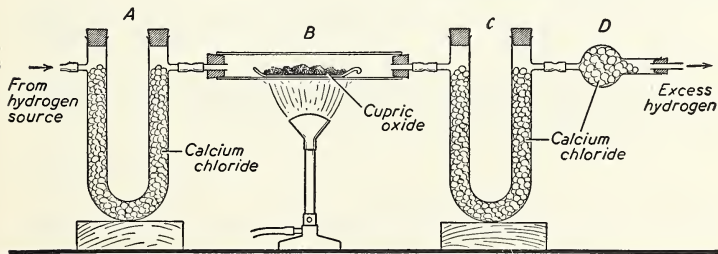

Fig. 44. Finding the percentage composition of water by weight.
The apparatus used (Fig. 44) consists of three drying tubes containing granular calcium chloride, a combustion tube and porcelain boat, a Bunsen burner fitted with a flame spreader, and a hydrogen generator (not shown in the diagram). Weigh the drying tubes (C) and (D) together, and record their weight. Fill the boat almost full of cupric oxide, place it in the combustion tube, and weigh the tube and contents together. Record this weight. Assemble the
complete apparatus, and connect it to a hydrogen generator. Pass hydrogen through the assembled tubes until all the air has been driven from them. To make certain that hydrogen has replaced the air in the system, test at the exit tube, for pure hydrogen (see Experiment 27). When hydrogen only is escaping, then, **and not until then**, heat the combustion tube as shown in Figure 44. Heat strongly for 5 minutes. Then remove the flame, and allow the tube and contents to cool. Remove (*C*) and (*D*) together, and weigh them again. Remove the combustion tube with its contents, and weigh again. Record the observations as follows: